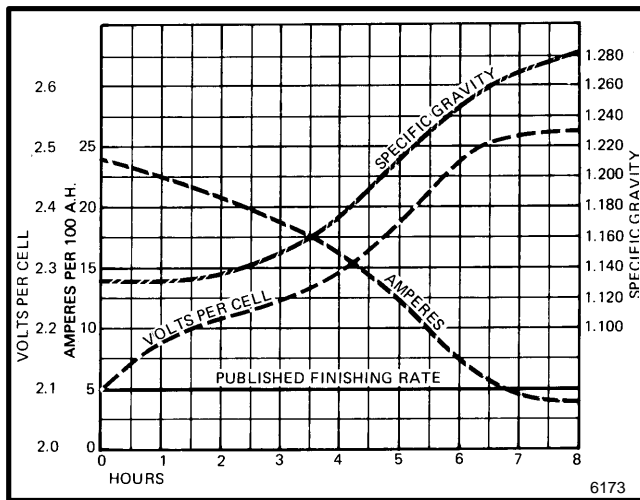

FIGURE 20. SPECIFIC GRAVITY COMPARED TO CHARGING TIME
1. **GRADUAL CHARGE.** This method uses a solid state automatic battery charger. The charging rate begins at 20 to 25 amps/100 amp-hours and decreases to less than 5 amps/100 amp-hours when the battery is 80% charged. The charging current decreases when the voltage across the cell increases during the charging cycle is shown in FIGURE 20. The increase in the voltage from the charger is approximately the same as the increase in the specific gravity in the cells.